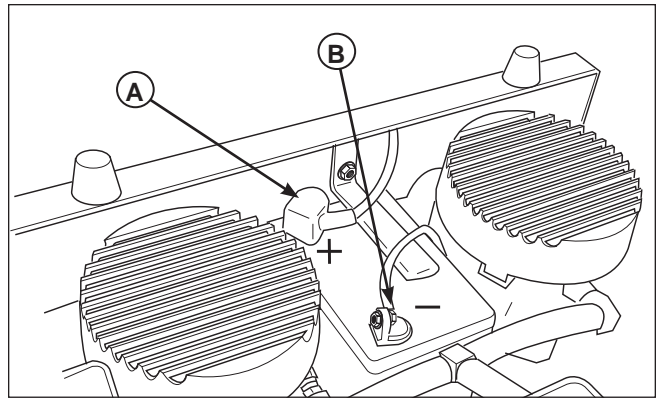

Figure 20. Battery Compartment
1. Disconnect the cables from the battery, negative cable first (B, Figure 20).
3. Reinstall the battery and reattach the battery cables, positive cable first (A)